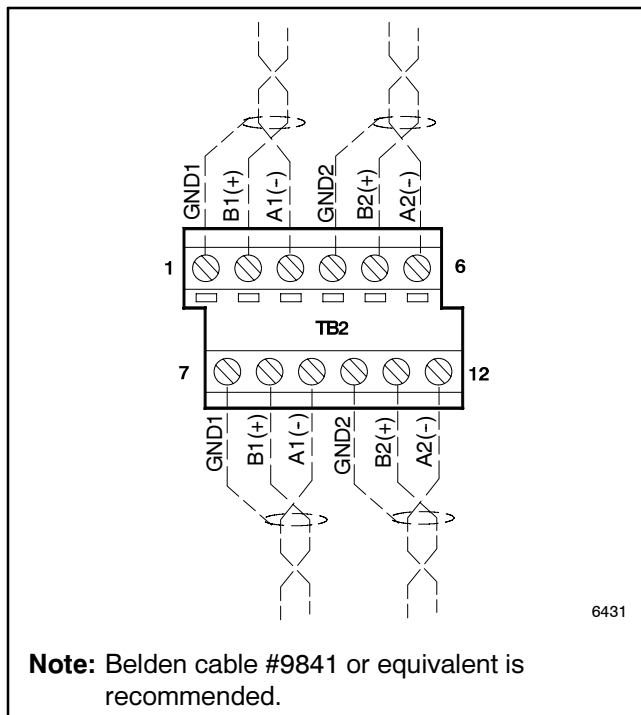

Figure 5-2 RS-485 Connections
- b. Use #12-24 AWG twisted-pair shielded cable; Belden cable #9841 or equivalent is recommended. Connect the Modbus® input and output to terminal strip TB2. See Figure 5-2. Connect A to negative (-), B to positive (+), and the shield to ground as shown in Figure 5-2.